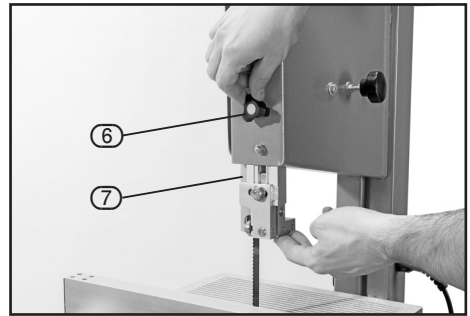

FIG. 10
9.4 BLADE GUARD SLIDE ADJUSTMENT – FIG. 10